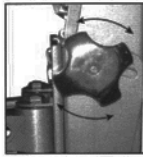

Fig. 7 - Loosen the adjustment knobs to change the tilt angle. There is one knob on each side of the mount.
- To adjust the tilt position of your display, have one person hold the display in place while another person loosens the two tilt adjustment knobs located on either side of the mount (see Fig. 7). Once the knobs are loose, move the display to the desired angle. Tighten the knobs securely before releasing the display.